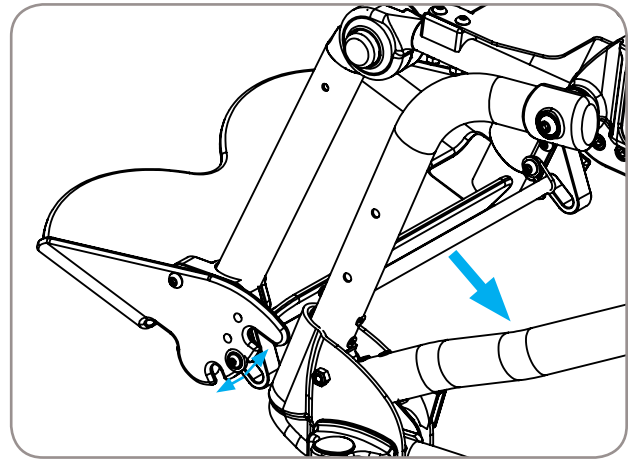

Figure 15
1. Grab center of adjustment bar and pull rearward, Reference Figure 15.